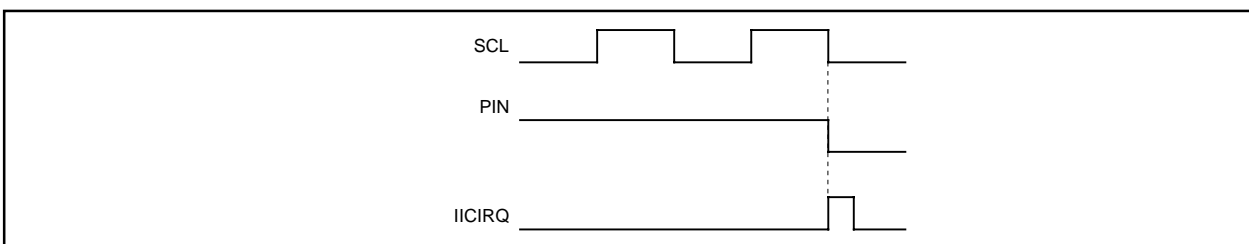

Fig. 2.11.37 Interrupt request signal generation timing
This bit generates an interrupt request signal. Each time 1-byte data is transmitted, the state of the PIN bit changes from “1” to “0.” At the same time, an interrupt request signal is sent to the CPU. The PIN bit is set to “0” in synchronization with a falling edge of the last clock (including the ACK clock) of an internal clock and an interrupt request signal occurs in synchronization with a falling edge of the PIN bit. When detecting the STOP condition in slave, the multi-master I²C-BUS interface interrupt request bit (IR) is set to “1” (interrupt requested) regardless of falling of PIN bit. When the PIN bit is “0,” the SCL is kept in the “0” state and clock generation is disabled. Figure 2.11.37 shows an interrupt request signal generating timing chart.